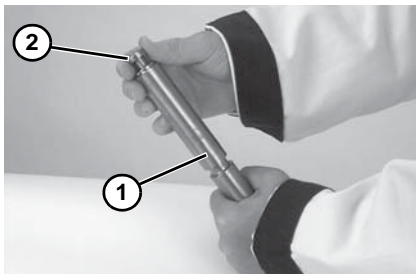

Figure 40
2. Inspect spindle (**Figure 40, item 1**). Replace if worn.
3. Slide bearing (**Figure 40, item 2**) onto spindle.